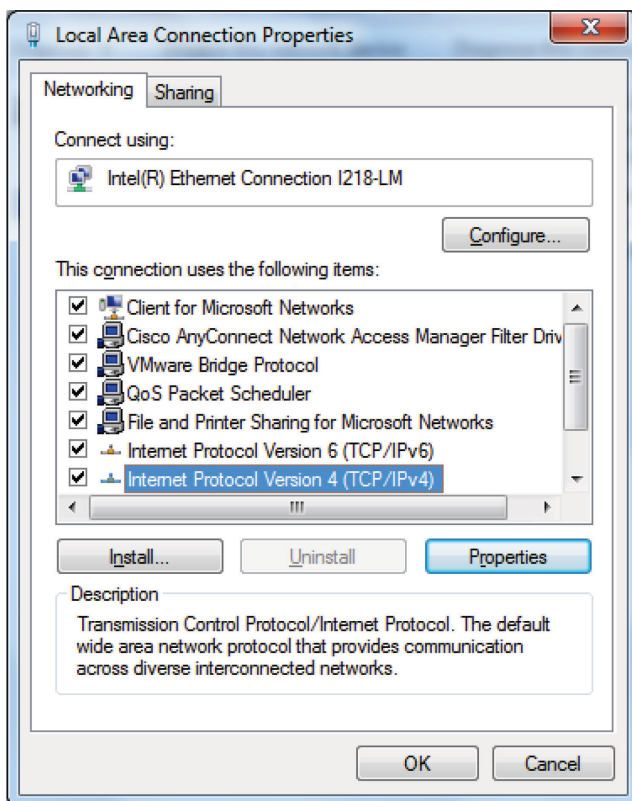

Figure 3. Configuring the Local Area Connection Properties.
3. Select **Internet Protocol Version 4 (TCP/IPv4)** and click on **Properties** (Figure 3.).